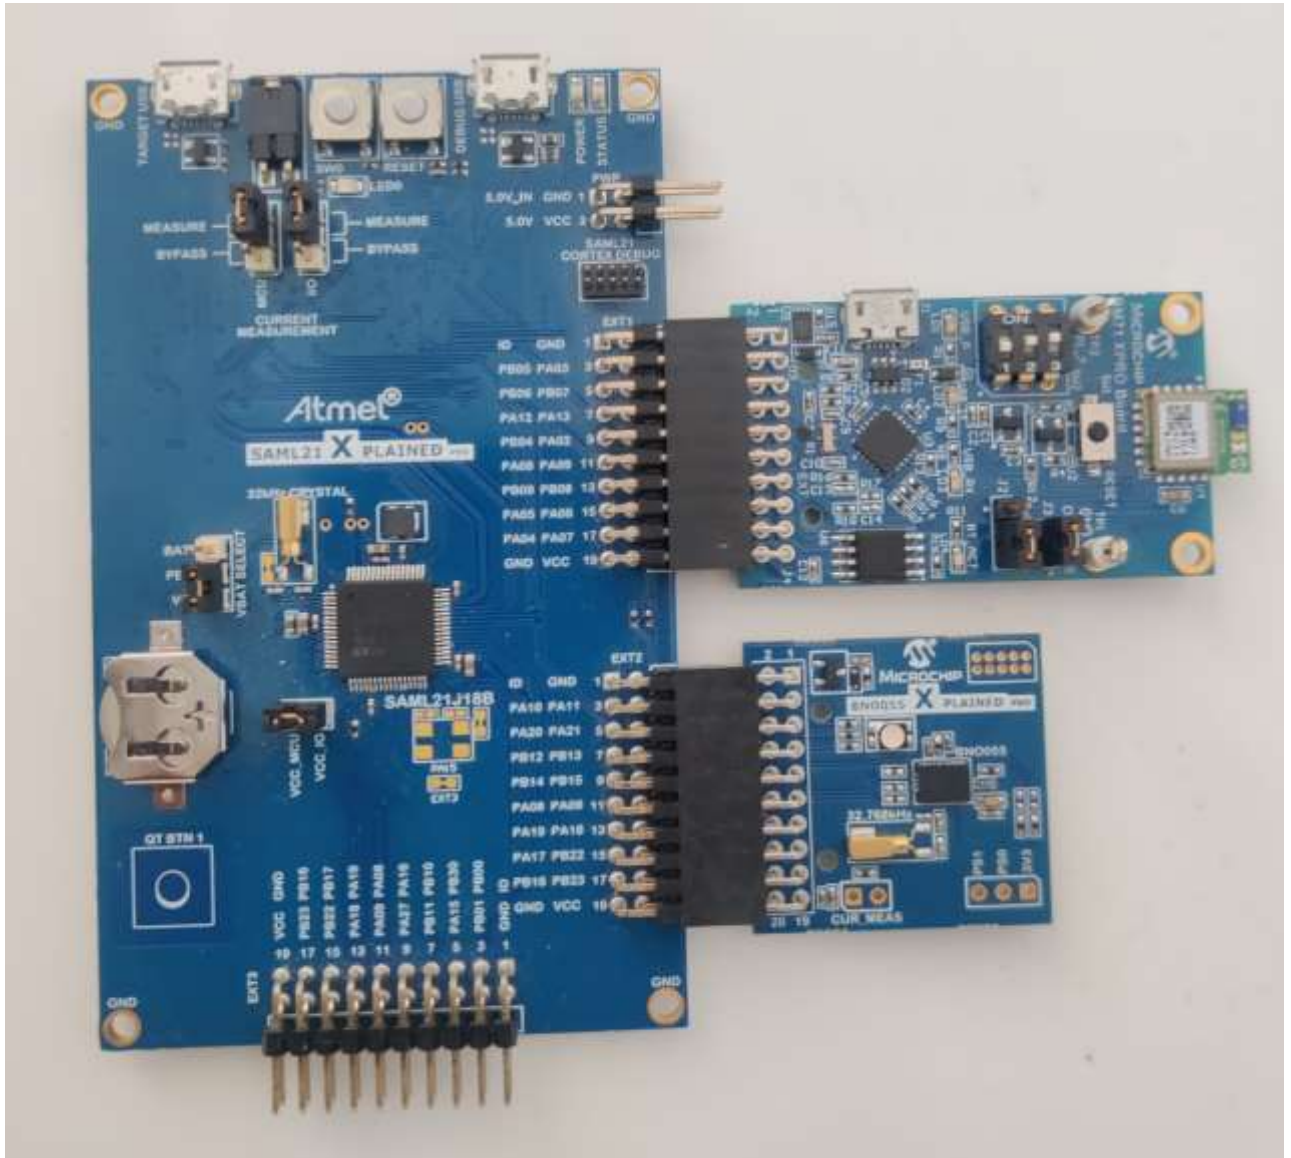

Figure 1: SAML21 Xplained Pro with BM71-XPRO and BNO055 Xplained PRO Board
1. Plugin the BM71-XPRO board into EXT1 of SAML21 Xplained Pro board as shown in Figure 1.
2. BNO055 Xplained PRO Board is used in this demo. Plug-in the BNO055 board into the EXT2 of SAML21 Xplained Pro as shown in Figure 1.